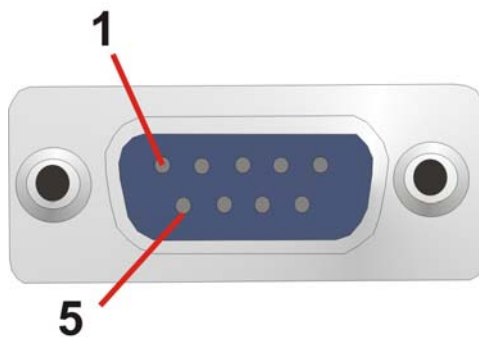

Figure 3-23: COM1 Pinout Locations
- CN Pinouts:** See Table 3-25 and Figure 3-23